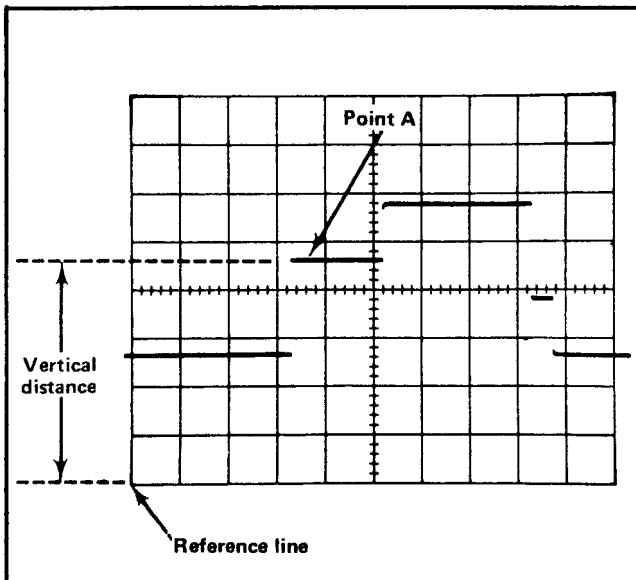

Fig. 2-8. Measuring instantaneous DC voltage with respect to a reference voltage.
9. Measure the distance in divisions between the reference line and the point on the waveform at which the DC level is to be measured. For example, in Fig. 2-8 the measurement is made between the reference line and point A.
**EXAMPLE.** Assume that the vertical distance measured is 4.6 divisions (see Fig. 2-8) and the waveform is above the reference line with a VOLTS/DIV switch setting of 2 V.